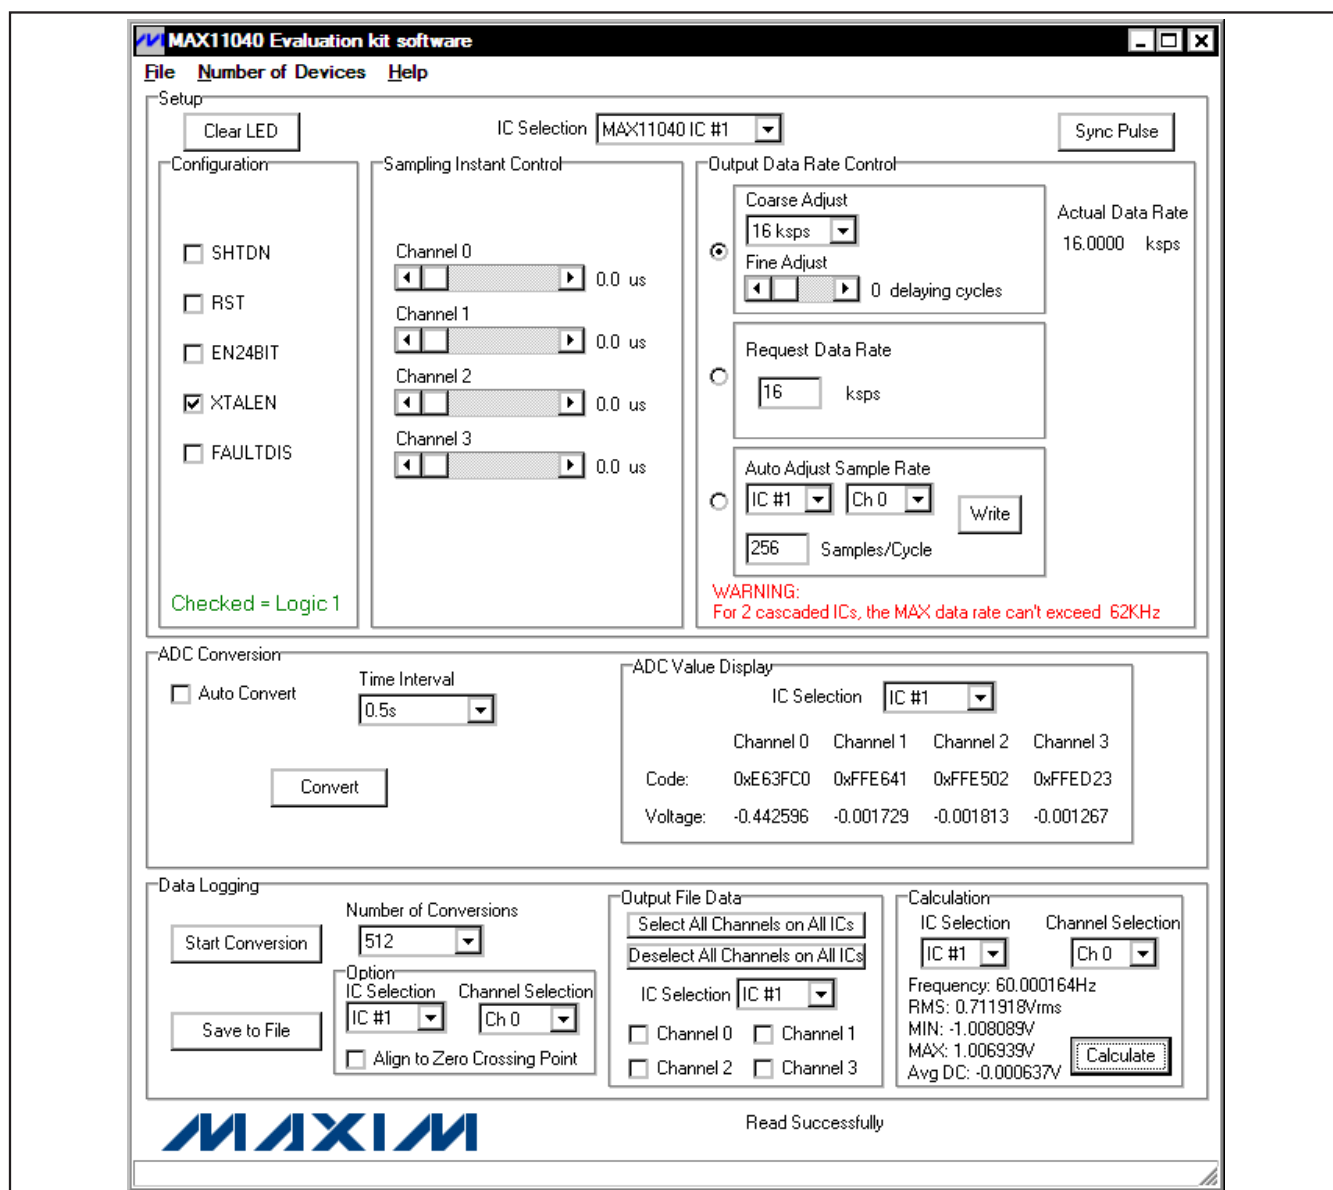

Figure 1. MAX11040 Evaluation Kit Main Window
- 12) Wait until the program automatically detects the MAX11040 hardware and displays the user-interface panel (Figure 1).
The MAX11040 EV kit's main window is shown in Figure 1. The **Setup** group box, located at the top of the window, contains **Configuration**, **Sampling Instant Control**, and **Output Data Rate Control** group boxes. Functions related to reading single-sample ADC values in the **ADC Conversion** group box are located in the middle section. Data-logging functions and data calculation are in the **Data Logging** group box, located at the bottom of the main window.
There are four LED indicators (D1–D4) on the daughterboard. D1 and D2 LEDs reflect the real-time logic levels on the $\overline{\text{FAULT}}$ and the $\overline{\text{OVRFLW}}$ pins, respectively. D3 and D4 LEDs latch on the fault conditions on the $\overline{\text{FAULT}}$ and the $\overline{\text{OVRFLW}}$ pins, respectively. When D3 or D4 is turned on, press the **Clear LED** button in the EV kit software (Figure 1) or press the on-board pushbutton (S2) to turn off the LEDs after the faults are cleared. All IC $\overline{\text{FAULT}}$ and $\overline{\text{OVRFLW}}$ pins are open drain and respectively connected in a wired-ORed configuration.